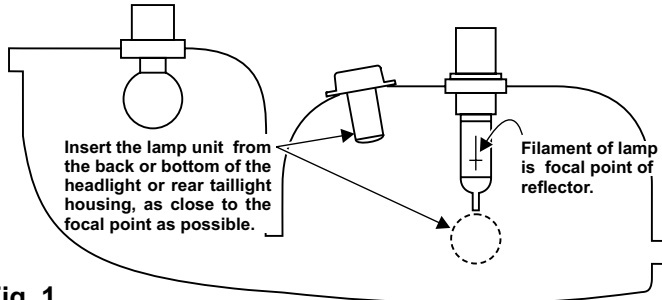

Fig. 1
3. Choose a surface in the rear or bottom of the housing which is as flat as possible. Using a hole saw, cut a 3/4" hole in the housing as shown (Fig. 1 & 2) and de-burr the hole.